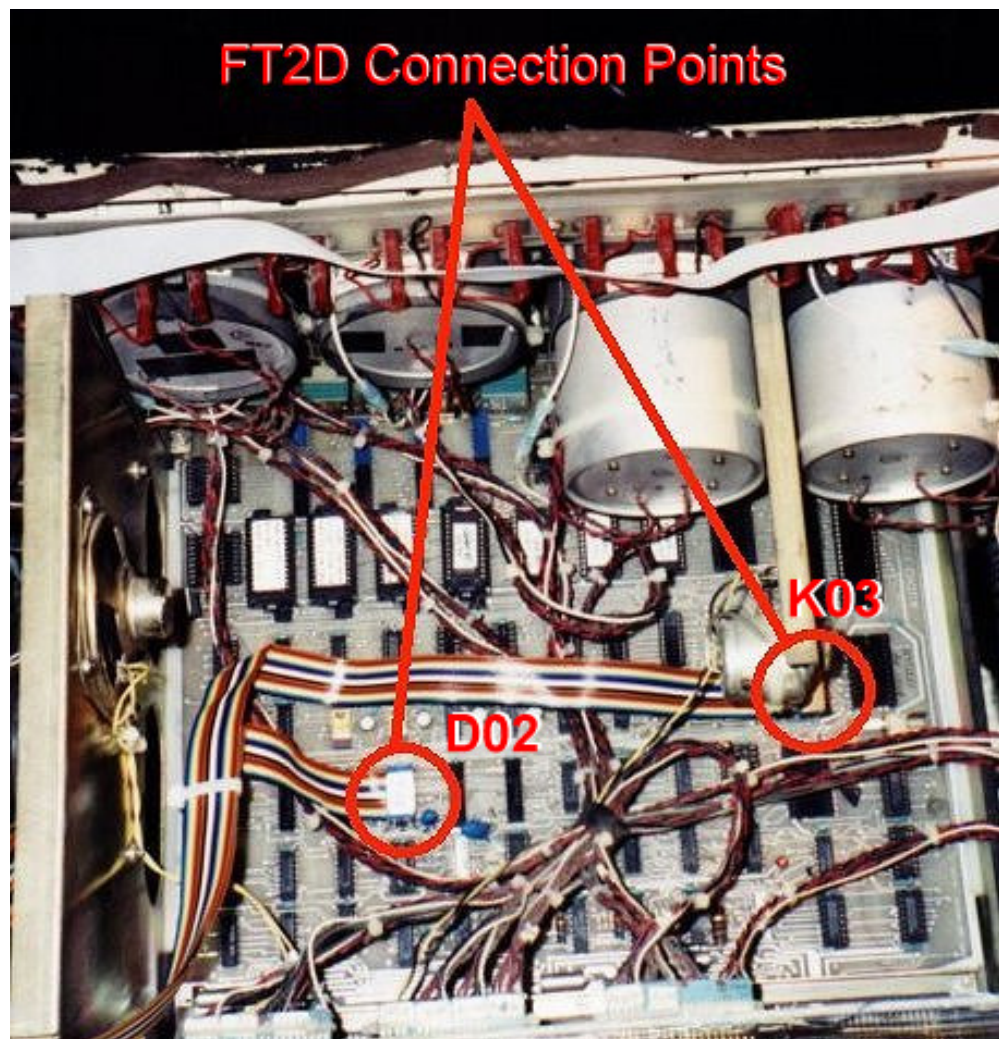

Figure 3.4
Step 9: Carefully re-insert the Audio / Transponder card with the ribbon cables into the ATC810, taking care to not to pinch or damage the ribbon cables. Refer to Figure 3.4 below for the completed installation.